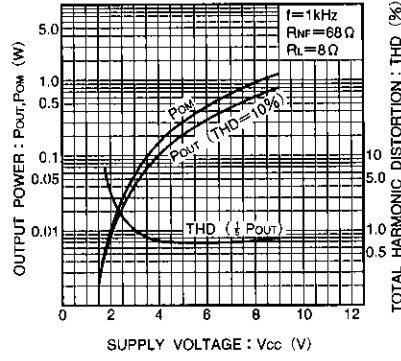

Fig. 2 Rated and max. output power and total harmonic distortion vs. supply voltage
- 1) High output. POUT = 330mW (VCC = 6V and an 8 Ω load (THD = 10%)). See Fig. 2.